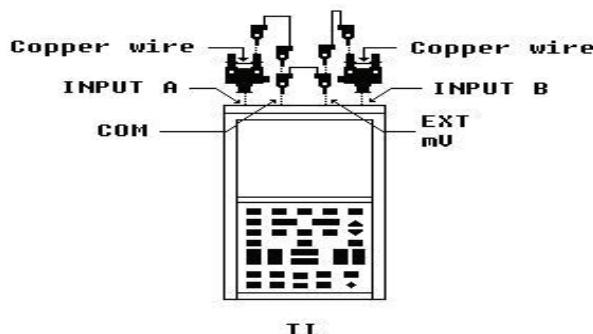

Figure 9. Input short.
(6) Displayed are the numbers of calibration memories free. Press (**F1**) CLOSE to display **CONTRAST**, **SCOPE**, **METER**, **ESCAPE**, and **CAL STORE**.
(7) Press (**F2**) **SCOPE** to display/highlight **SCOPE** and **CAL 1**.
(8) Set calibrator to standby.
(9) Remove +12 V dc from calibrator to TI.
(10) Connect equipment as shown in figure 9 below: